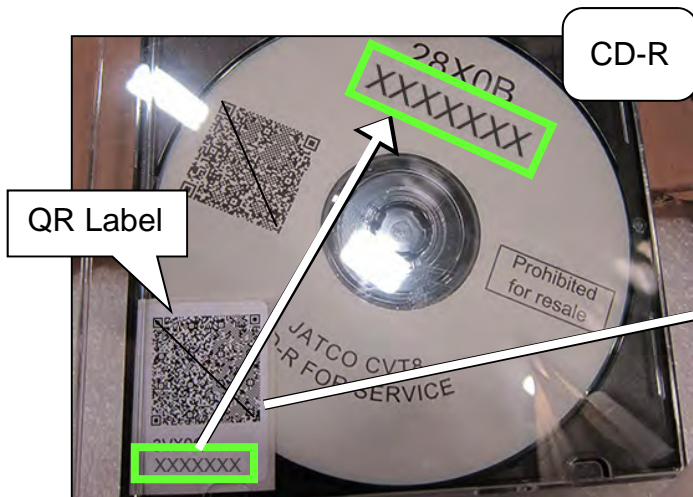
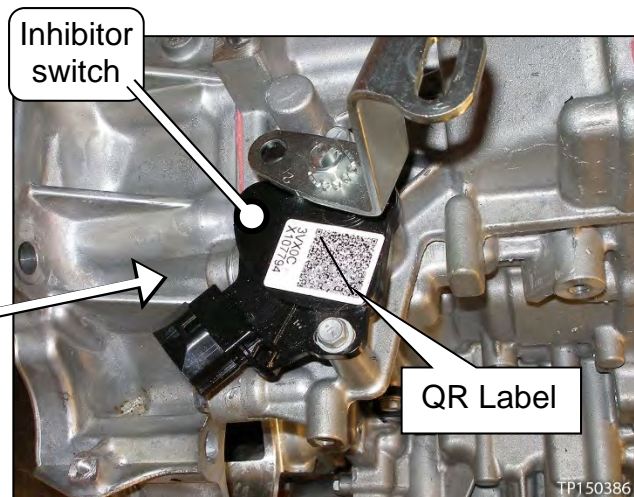

Figure 30
Figure 31
23. Attach the QR label (Figure 30) with the new calibration data onto the transmission range switch (inhibitor switch Figure 31).
- Confirm that the QR label and the CD-R part numbers are the same (Figure 31).